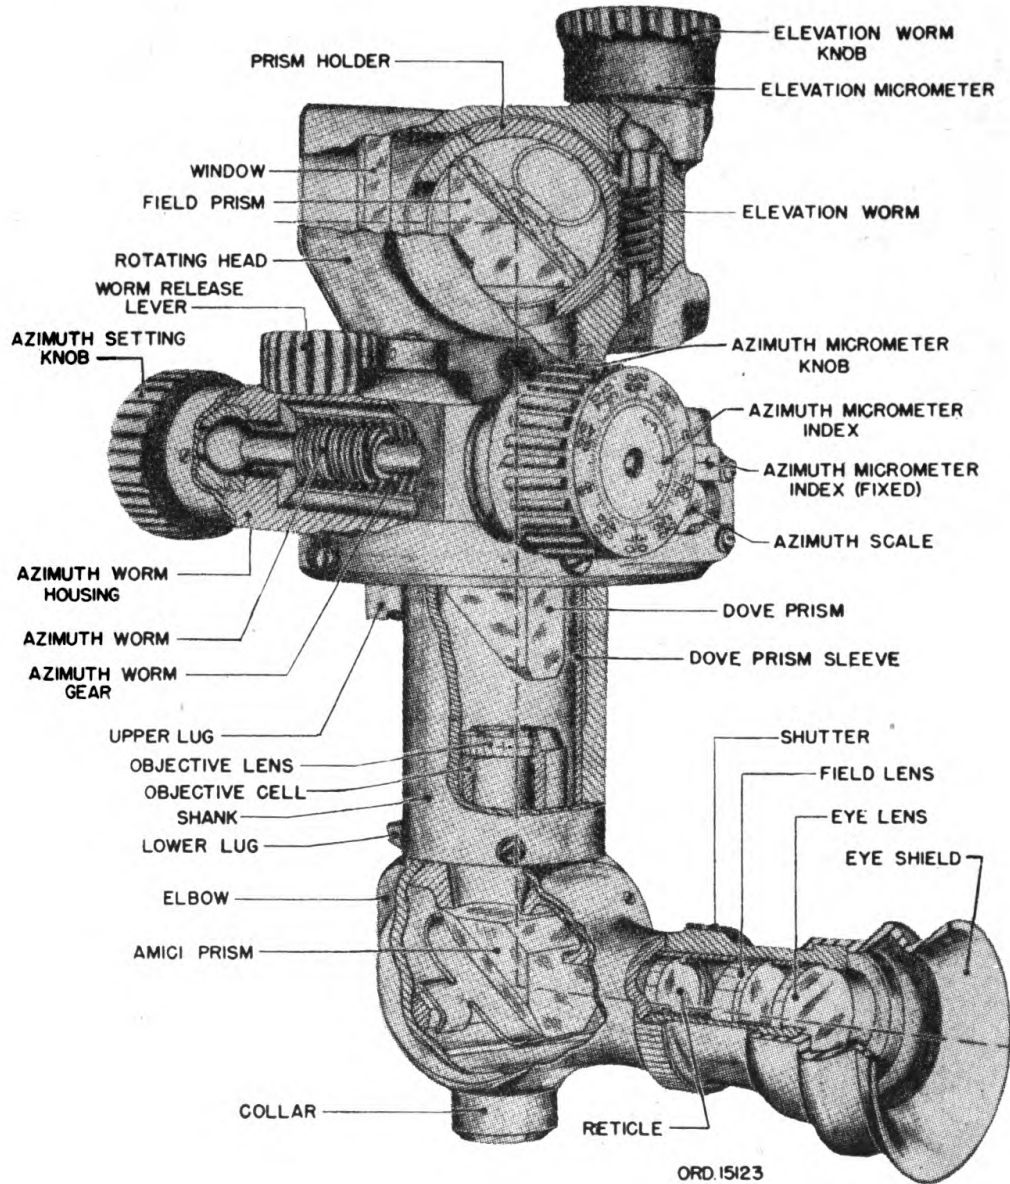

FIGURE 9.—Panoramic telescope M5A5—arrangement of internal parts.
4. Telescope, panoramic, M5A5, (fig. 9).—*a. General.*—This telescope is a 4-power telescope of the fixed-focus type. It is divided into three groups to facilitate description; the rotating head and related mechanism; dove prism and related mechanism; and the elbow, including the parts which it supports.
c. Dove prism.—The dove prism (fig. 9) is supported within a sleeve by its holder, and is geared to the field prism so that the former is rotated about the vertical axis through one-half the angle of rotation of the latter. This gearing consists of a spur gear cut on the inner